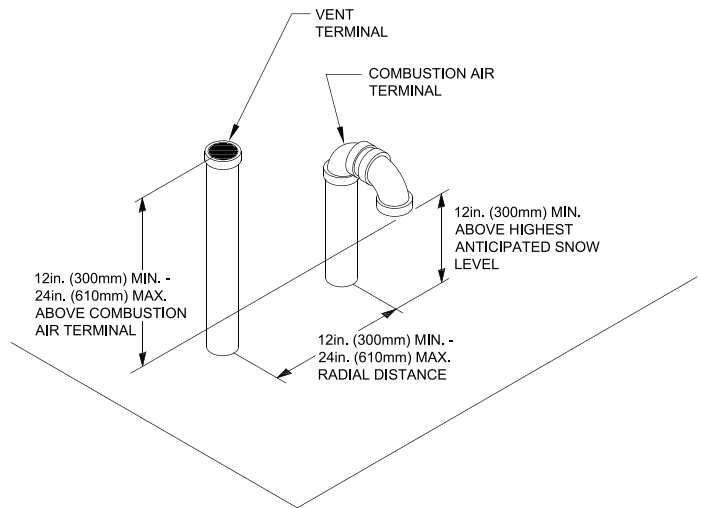

Figure 7: Direct Vent - Vertical Terminations
- ii. Vertical Roof Venting: Use straight coupling on vent and two 90° elbows turned downwards for combustion air as shown in Figure 7 and Figure 8.
- c. See Table 7C for CPVC/PVC installer provided vent and combustion air components required for optional vertical roof terminals shown in Figure 7.